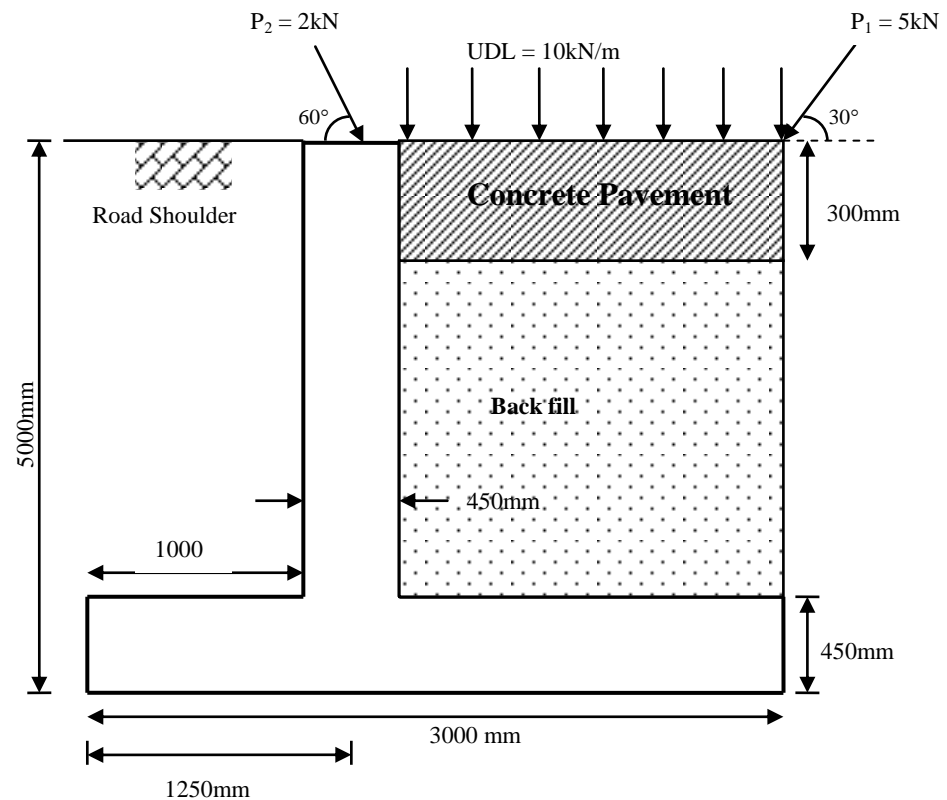

Figure 2.0
3. (a) Based on BS 8110 : 1997, prepare the following basic data to design a cantilever retaining wall to support a road shoulder as shown in the Figure 2.0. The top surface of the concrete pavement is subjected to uniformly distributed load of 10kN/m and two point load P1 and P2 = 5kN. Assume the retaining wall is backfilled with granular material having a unit weight of 20 kN/m³ and an internal angle of friction of 30. The bearing capacity from soil investigation is 250 kN/m², the coefficient of friction is 0.5 and the unit weight of concrete pavement is 24 kN/m³.